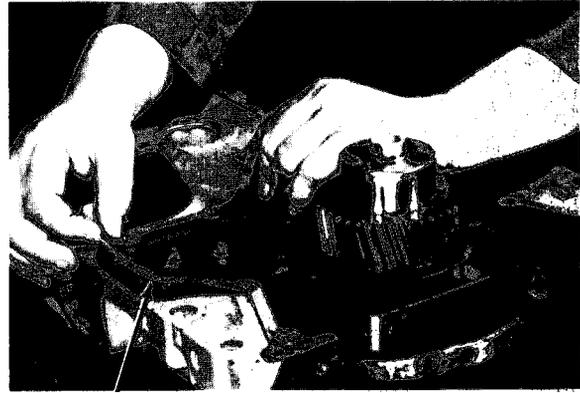

Figure 6-3
12. Remove front gear housing (2).
13. Remove front gear housing gasket (3, Figure 6-3). Remove all gasket material from mounting surfaces.